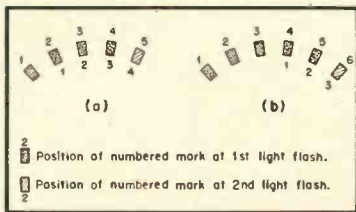

Fig. 1. Stroboscope pattern formation: (A) basic or first-order pattern; (B) higher-order pattern—in this example, the third.
A simple stroboscope for speed check use on rotating equipment consists of an accurately timed, flashing light source and a circular array of equally spaced marks so arranged that successive marks occupy the same physical position during successive light flashes—the pattern of these marks thus appearing stationary, as at (A) in Fig. 1. The speed of rotation of the array which will make the pattern formed appear stationary is related to the angular spacing of the marks and their total number by the simple formulas:
n = total number of marks in the array. It should be noted that the flash repetition rate is twice the supply frequency for a glow lamp operating on alternating current. Also to be remarked is the fact that any integral multiple of n marks will give a stationary pattern also, and that a similar effect will be observed if the n -mark array is rotated at a speed which is an integral multiple of the speed S , as at (B) in Fig. 1. For example, an array of lines spaced 4 deg. apart will appear stationary under illumination